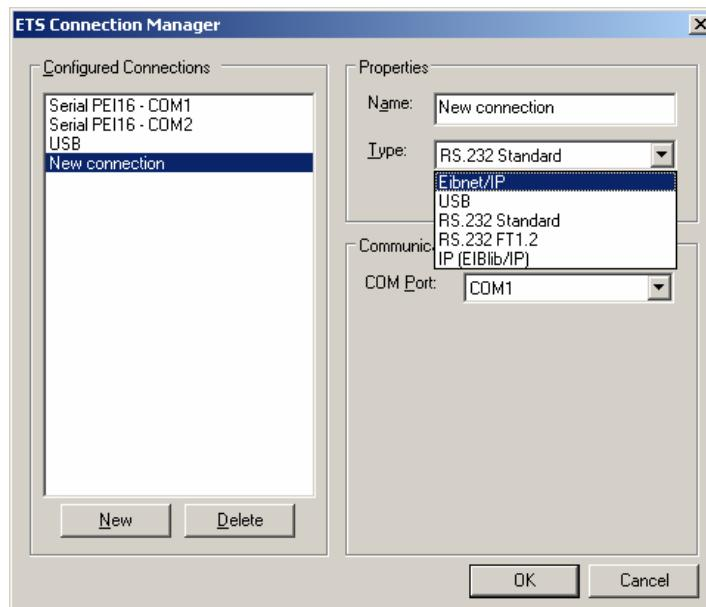

Fig. 6: Creating the new connection as EIBnet/IP connection
3. Create a new connection. To do so, press the "New" button. Select a unique name for the new connection. Under "Type" select "Eibnet/IP" (cf. Fig. 6).